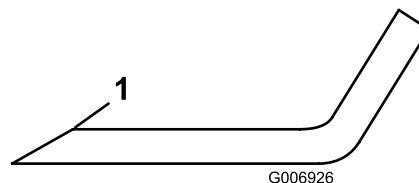

Figure 85
3. Inspect the cutting edges of all blades. Sharpen the cutting edges if they are dull or nicked. Sharpen only the top of the cutting edge and maintain the original cutting angle to make sure of sharpness (Figure 85). The blade will remain balanced if the same amount of metal is removed from both cutting edges.